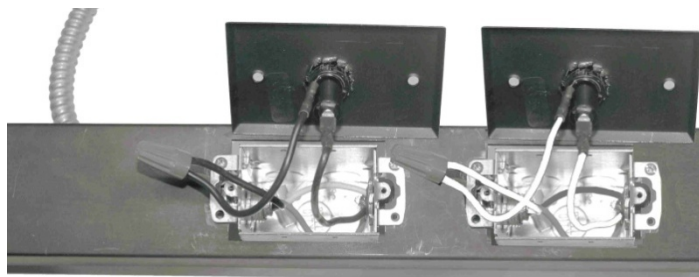
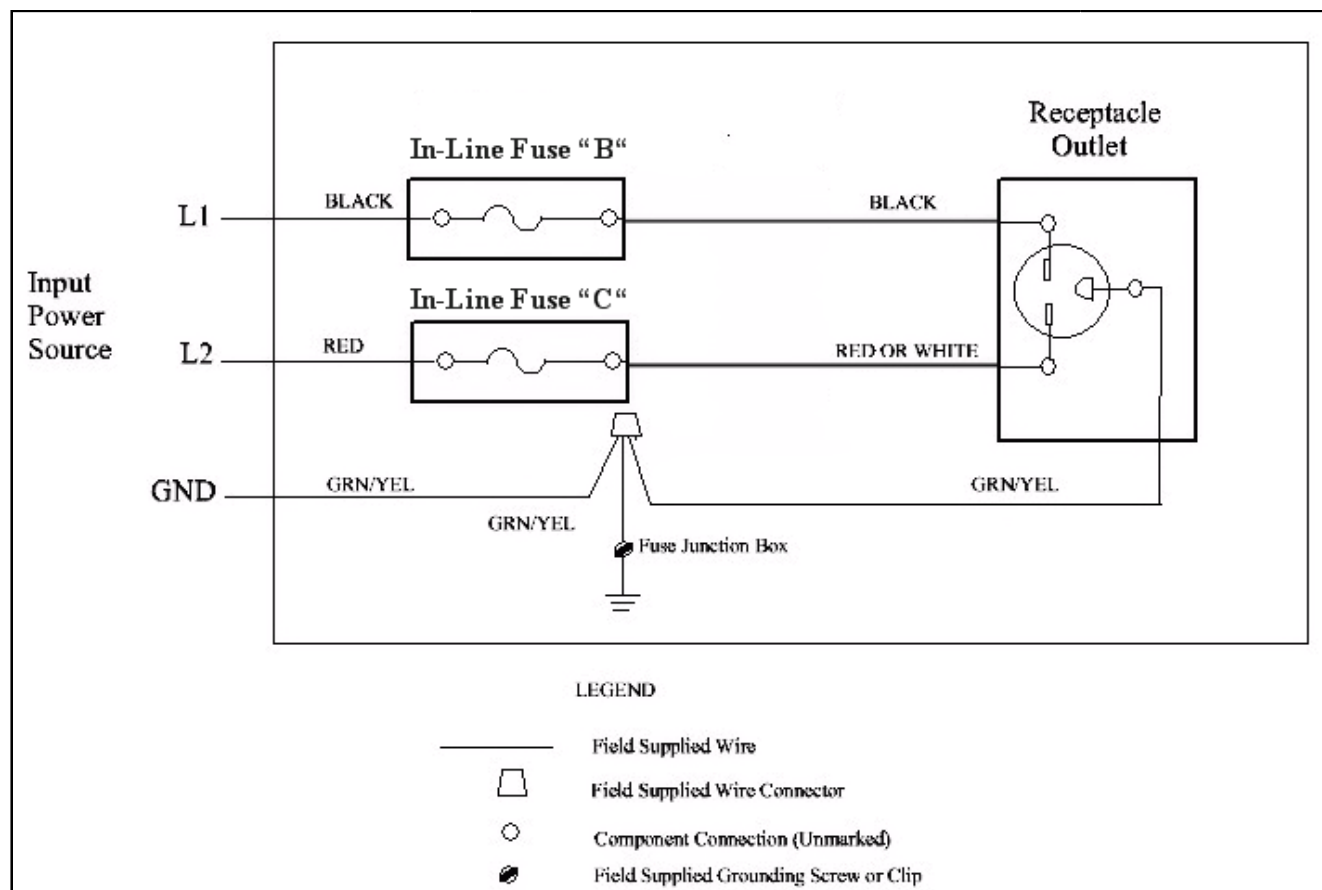

Figure 9 – Wire Power Source to In-Line Fuse
Figure 15 – Wiring Diagram
Step 9— Connect conduit wire L1 to “In-Line Fuse” in position “C” using a field supplied female quick connect terminal. Pass conduit wire L2 through conduit nipple and connect to “In-Line Fuse” in position “B” using a field supplied female quick connect terminal, as shown in Figure 9. Refer to wiring diagram in Figure 15 below.